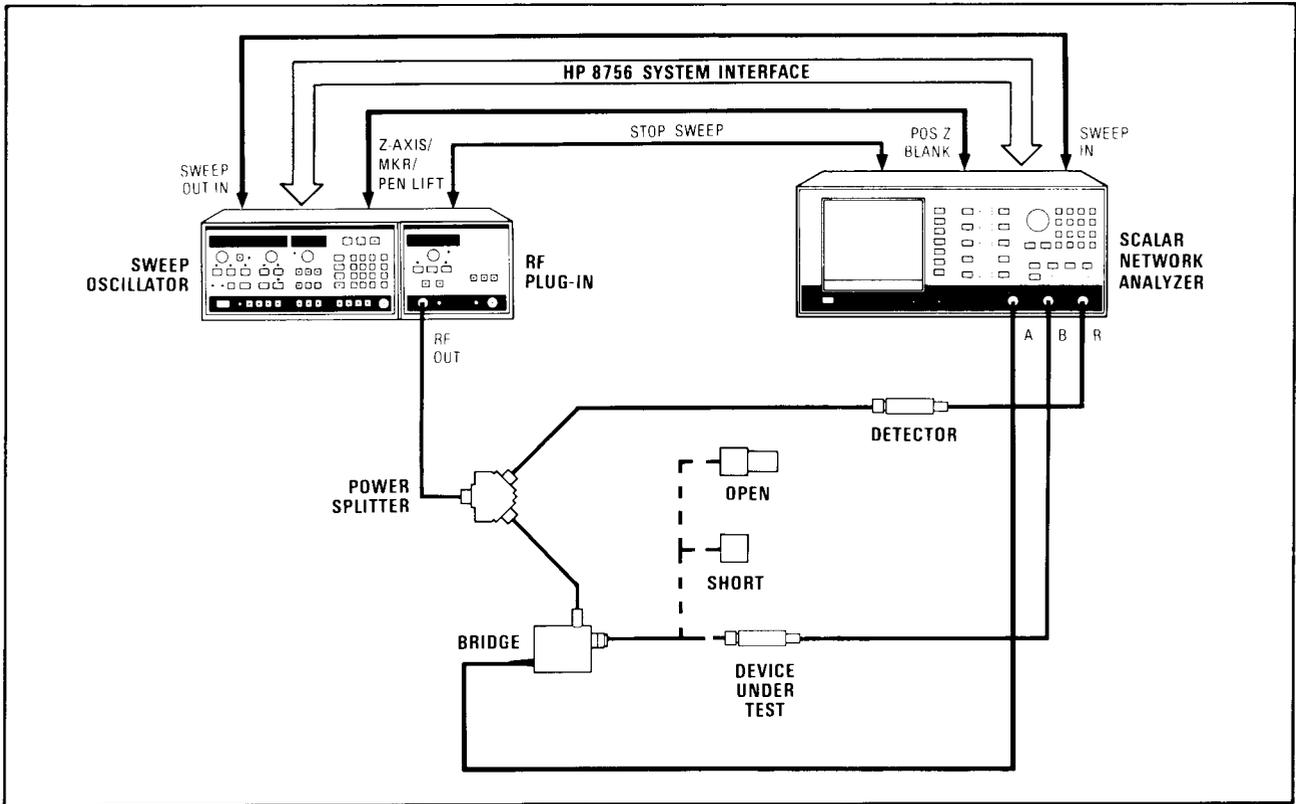

Figure 4-1. Return Loss Test Setup
1. Set up equipment as shown in Figure 4-1, with nothing connected to the bridge **TEST PORT**. Press [PRESET] on the HP 8756A. This will preset both the HP 8756A and the HP 8350B (this will turn the HP 8350B [MOD] on and set the sweep time to 200ms). Allow 30 minutes warm-up.